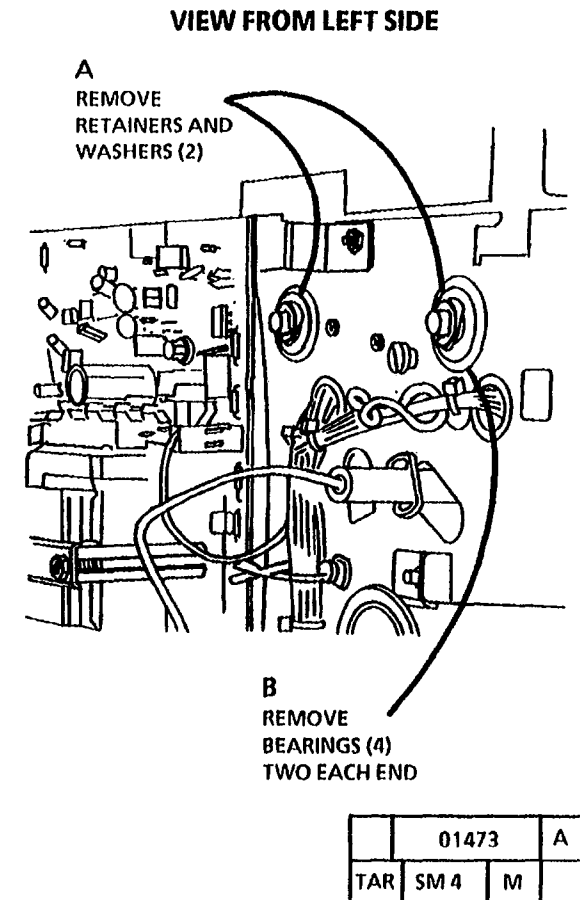

Figure 3. Remove the Bearings from Left Side
8. (Figure 3): Remove the bearings.